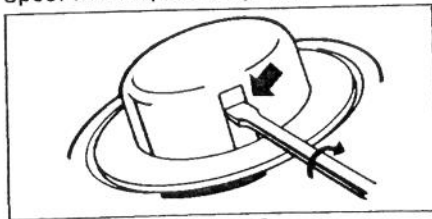

Figure 16
2. To remove empty spool, insert widest possible blade screw driver snugly into one of the two window slots. With screw driver pressed firmly into window slot twist screw driver 1/4 turn. Spool will snap off (Fig. 16).